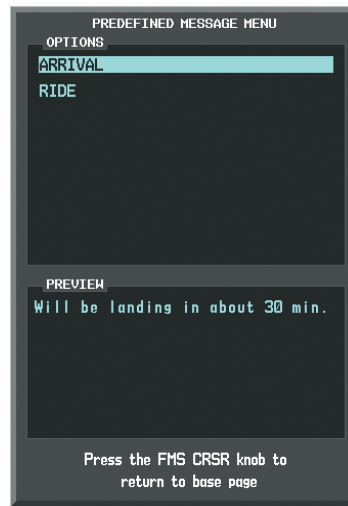

Figure 8-101 Predefined Message List
- 4) Select the **PREDEFD** Softkey. The PREDEFINED MESSAGE MENU Window is displayed as seen in Figure 8-101.